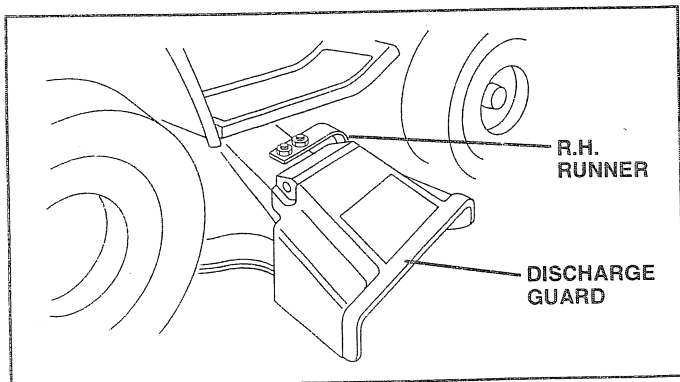

FIG. 11
- Use the runner on the right hand side of mower as a guide. The blade cuts approximately an inch outside the runner (See Fig. 11).